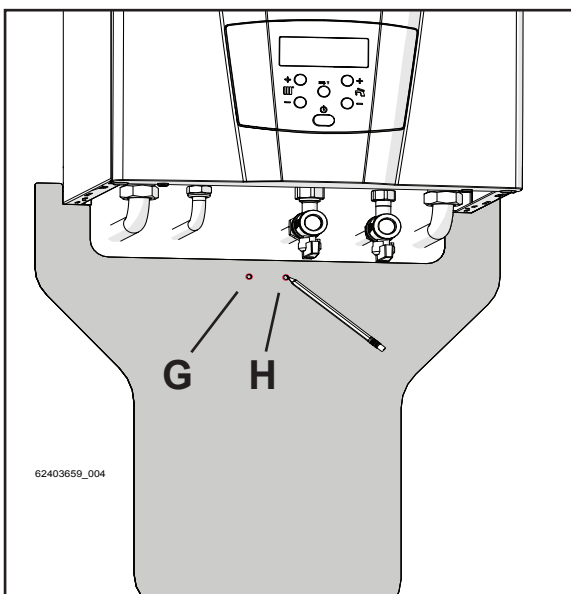

Figure 5-33
- 2 - Mark holes "G", "H" and "L", "M" using a pencil as shown in figures 5-33 and 5-34;